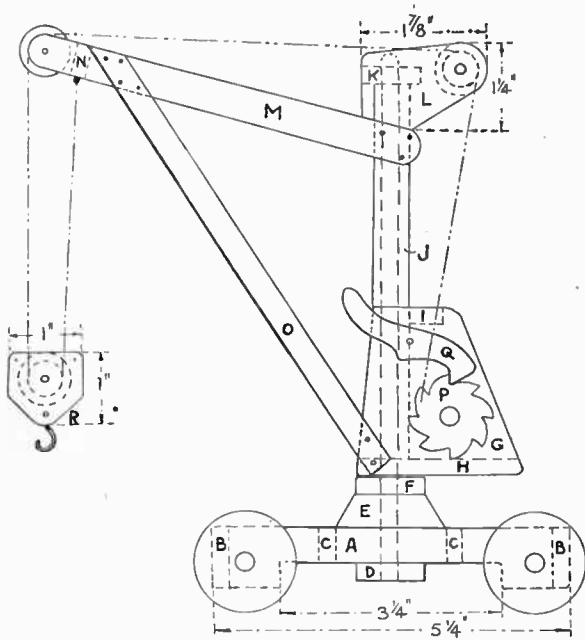
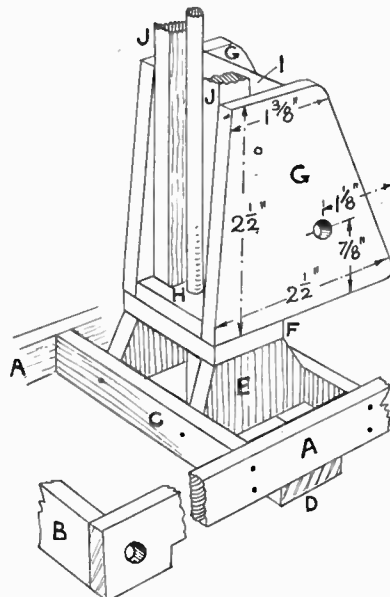
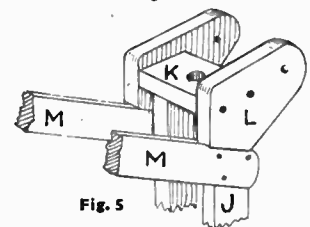

Fig. 1
Fig. 2
Fig. 5
Commence to work upon the platform which carries the wheels. The constructional diagram Fig. 1 shows the side rail as (A), and the length of this is 5½ ins., and its width at the ends ¾ in. For a length of 3½ ins. its width is ½ in. as shown.
All the rails for the platform are ¼ in. thick. There are two further cross rails (C); only these are 4 ins. long by ¾ in. wide and their position is seen in Figs. 1 and 2. Yet another cross rail is fixed to the platform, that shown at (D). This is 4½ ins. long and 1 in. wide, and, in its centre, is a hole to receive the end of the ½ in. rod round which the crane will swing.
Two shaped cross pieces (E) are now cut 1½ ins. long by 1 in. wide, and to the top of these the support piece (F) is fixed (see Figs. 1, 2 and 3). This piece (F) should be 1½ ins. long and 1 in. wide, and in this also is made a ¼ in. diameter hole to take the rod as seen. The two pieces (G) are next cut according to the dimensions given in Fig. 2, including the hole for the axle of the winding drum. The floor (H), to which the parts (G) are glued and nailed, measures 2½ ins. by 1 in., and a hole is made in this, a full ¼ in. so as to move freely round the upright rod.
A corresponding cross rail (I), the same length as (H) but  $\frac{1}{2}$  in. only in width, is fixed as shown (see Figs. 1 and 2).
Next prepare the two long uprights (J) from  $\frac{1}{2}$  in. thick wood,  $5\frac{1}{2}$  ins. long and  $\frac{1}{2}$  in. wide. Glue and pin these to the back of pieces (G) in the position shown, and connect up at the top with the cross piece (K), 1 in. long by  $\frac{3}{4}$  in. wide and  $\frac{1}{2}$  in. thick. Cut a hole in this piece a full  $\frac{1}{2}$  in. diameter for the tip of the round rod to go through loosely. Two pieces as (L) in Fig. 1 are next drawn out, cut to the measurements given, and glued to the outer sides of pieces (J) (see enlarged diagram Fig. 5). Note their positions in relation to the pieces (J) and (K).
The two arm supports (M) are next prepared from  $\frac{1}{2}$  in. thick wood. They are to be 6 ins. long and  $\frac{1}{2}$  in. wide, and the outer end should be cut to a semi-circle while the near end is just rounded as seen in Fig. 1. Bore a hole in each piece to take the pivot of the pulley at the outer end, and then hold the pieces together firmly by adding the short rail (N). This is 1 in. long and  $\frac{1}{2}$  in. wide and  $\frac{1}{2}$  in. thick. The two jib pieces (O) are  $7\frac{3}{8}$  ins. long,  $\frac{3}{8}$  in. wide and  $\frac{1}{2}$  in. thick, and they are fitted and fixed to the side pieces (G) at the bottom and to the supports (M) at the top. Hold the one piece first in position and mark off in pencil where it must be cut to get the correct angle. Mark and cut the second piece from this, and finally glue and pin the two to their respective pieces.
When gluing on the crank to the spindle allow a  $\frac{1}{16}$  in. clearance so that all will work freely when the winding cord and weight is attached. Make the pawl (Q) from  $\frac{1}{2}$  in. wood to the pattern shown in Fig. 1. It is  $1\frac{1}{2}$  ins. long, and a piece of wood  $\frac{3}{4}$  in. wide should be sufficient to get the correct shape shown. Test the pawl for position by placing it on the face of (G) and engaging the ratchet wheel, just as seen in Fig. 1. Then insert the screw after making the hole and screw it down, not tightly, of course, as it should rise and fall evenly and smoothly as the teeth of the ratchet wheel rise and fall. The whole crane and jib must finally be put over the main upright spindle, and come to rest on platform (F), where a thin metal or ivory washer could be inserted or dropped over the spindle beforehand.